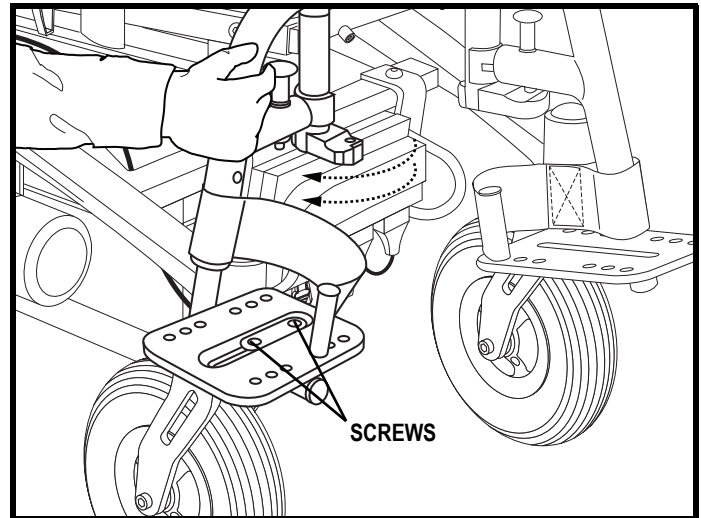

Figure 19. Swing-away Footrest Adjustment
1. Loosen the nuts on the two screws on the underside of the foot plate. See **figure 19**.